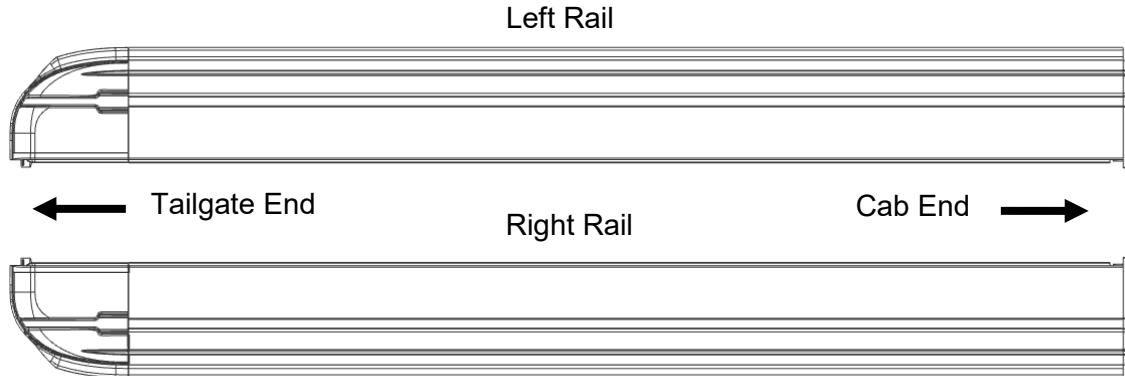

FIG. 4A
Next identify the left and right side *rails* (FIG 4A). The rail flange and foam towards the outside of the truck bed.
The between the rail dimension should match the chart to the right of FIG 4A. Use the shims to achieve this measurement on the front clamp assembly and the tailgate end clamp assembly, take the Clamp Shims (3) and the Clamp Spacer (4) and fit them behind the Clamp Rail Grip (1) and up against the inner bed rail lip.